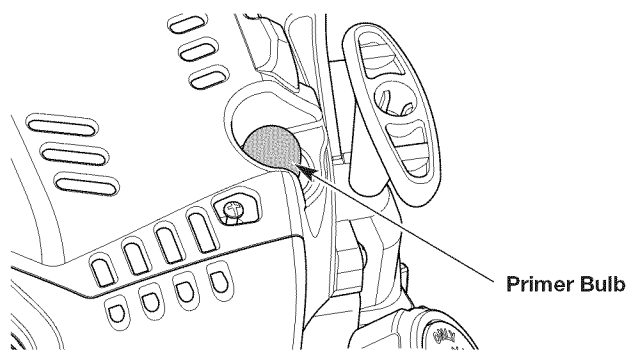

Fig. 9
4. Slowly press and release the primer bulb **10 times** (Fig. 9).